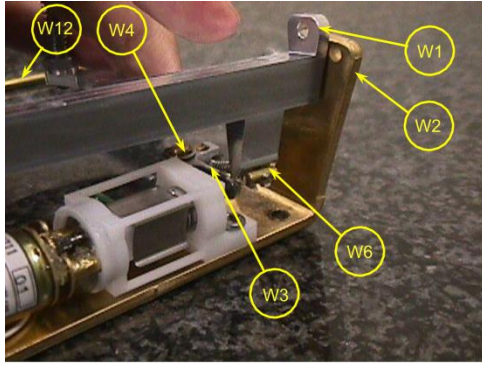

Fig.22
- Detach the Weight loader assy (10) in accordance with steps 1) to 3) in “4.6 Replacing the Weight loader assy (10)”.
- Detach the Snap ring D2 (W9), pull out the Shaft (W12), and detach the Lever calibration weight support (W1) by pushing down the Hooking shaft (W6) hooked onto the Lever calibration weight support (W1)(Fig.22). At this point the Nut (W14) can be loosened to detach the Assy,Push-up stick(W28). In addition, the Pull screw for the lever (W5), the Washer,M2 (W20), the Compression spring (W24), the Washer,M2(Small) (W11), the Hooking shaft (W6) (bonded to the pull screw for the lever of the Detector lever (W3)) can be detached from the Lever calibration weight support (W1).